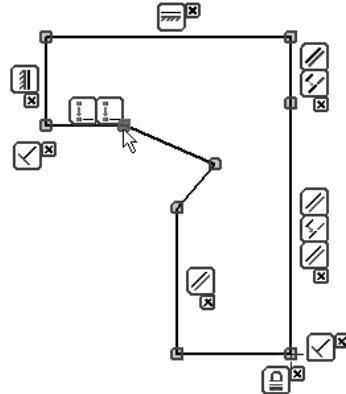

Figure 3-6 The constraint boxes showing the constraints applied to the sketch
You can view all constraints that are applied to the entities of a sketch by choosing the **Show Constraints** tool from the **Constrain** panel. When you invoke this tool and move the cursor close to any sketched entity, it will be highlighted and boxes will be displayed after a pause. These boxes show the symbols of all constraints that are applied to the entity. The symbols of the constraints will be highlighted in yellow box. Select the entity to retain the constraint box; the constraint box will be displayed with the constraints in a white background. Figure 3-6 shows the constraint boxes along with the constraints applied to the lines. You can move this box by selecting it and dragging. To close a box, choose the cross (X) on the extreme right of the box. In the case of **Coincident Constraint**, the constraint applied on a point is highlighted in yellow, instead of a box. To view symbols, move the cursor over the highlighted yellow point; the yellow point will be highlighted in red border and the symbols will be displayed in boxes, refer to Figure 3-6.